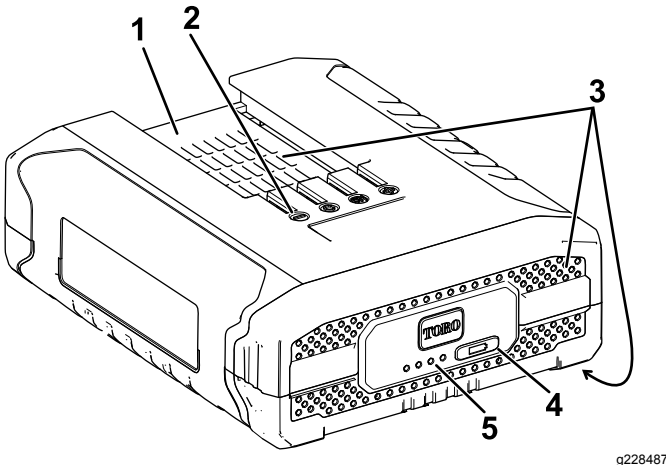

Figure 10
2. Line up the cavity in the battery pack (Figure 10) with the tongue on the charger.